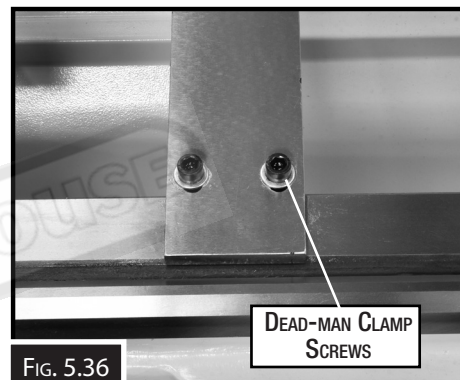

FIG. 5.36
When the cap screws (Figure 5.36) are used to clamp the dead-man clamp against the bedway, the taper turning attachment is engaged.
3. Using an 8mm hex wrench, tighten both the dead-man clamp cap screws so the dead-man clamps against the lathe bedway (Fig. 5.36).